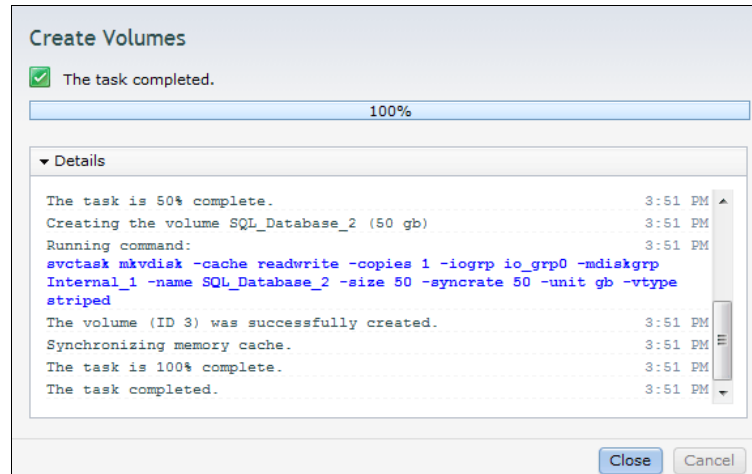

Figure 6-5 Volume created
3. Enter a volume name and a size, and click **Create**. The new Generic volume is created and the CLI commands that IBM Flex System V7000 Storage Node uses are displayed (Figure 6-5 on page 245).